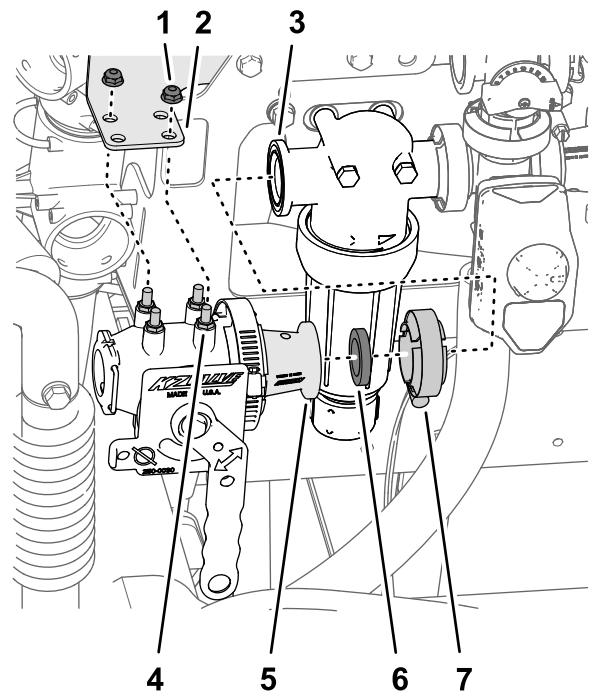

Figure 7
2. Align the flange of the reducer adapter (eductor valve) to the flange of the pressure-filter head (Figure 7) with the gasket that you removed in step 2 of Removing the Hoses (page 4).
3. Align the studs of the pressure-filter head through the holes in the valve mount bracket (Figure 7).
4. Assemble the flange of the reducer adapter to the flange of the pressure-filter head (Figure 7) with the flange clamp that you removed in step 2 of Removing the Hoses (page 4).